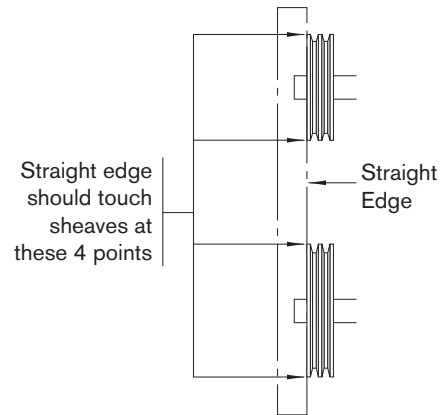
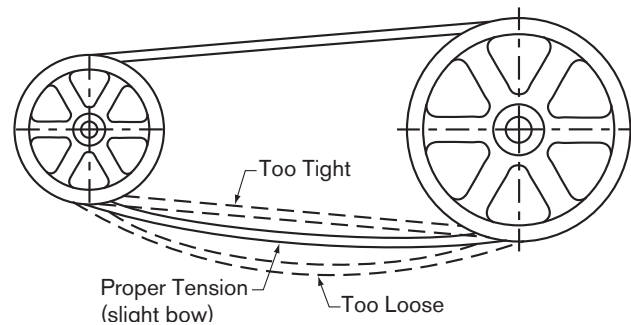

Figure 2
Figure 3
- 20 ☐ ☐ ☐ Check belt tension. Alignment and tension should be as shown in **Figure 2** and **Figure 3**. Adjust if necessary. **Unlock power to the motor.**
14. After 20 minutes, **carefully** look down the belt tube to observe if the belts are running as indicated in **Figure 3**.
16a. If the belts were running as per **Figure 3**, re-install the belt guard or weather cover if supplied, then go to Step 17
16b. If the belts were **not** running as indicated in **Figure 3**, repeat Steps 2, 3, 10 through 14 and 16a.
21. **Carefully** look down the belt tube to observe if the belts are still running as indicated in **Figure 3**.
23a. If the belts **are** running as per **Figure 3**, re-install the belt guard or weather cover if present, then proceed to Step 24.
23b. If the belts **are not** running as indicated in **Figure 3**, repeat Steps 2, 3, 10 through 14 and 16a.
28. **Carefully** look down the belt tube to observe if the belts are still running as indicated in **Figure 3**.
30a. If the belts **are** running as per **Figure 3**, re-install the belt guard or weather cover present, then proceed to Step 31.
30b. If the belts **are not** running as indicated in **Figure 3**, repeat Steps 2, 3, 10 through 14 and 16a.
35. **Carefully** look down the belt tube to observe if the belts are still running as indicated in **Figure 3**.
- 37a. If the belts **are** running as per **Figure 3**, re-install the belt guard or weather cover if present, then proceed to Step 38.
- 37b. If the belts **are not** running as indicated in **Figure 3**, repeat Steps 2, 3, 10 through 14 and 16a on page 9
33. Since all the components were re-installed at the same original dimensions, they should still be aligned and parallel with each other as shown in Figure 1 and Figure 2. Check the belts to make sure they are aligned and the belts are perpendicular to the grooves in the sheaves.
39. After 20 minutes, **carefully** look down the belt tube to observe if the belts are running as indicated in **Figure 3**.
- 41a. If the belts **are** running as per Figure 3, re-install the belt guard or weather cover if present, then proceed to Step 42.
- 41b. If the belts **are not** running as indicated in Figure 3, repeat Step 2 and Steps 31 through 33.
46. **Carefully** look down the belt tube to observe if the belts are still running as indicated in **Figure 3**. Turn off and lock out power to the motor.
- 47a. If the belts **are** running as per **Figure 3**, re-install the belt guard or weather cover if present, then proceed to Step 48.
- 47b. If the belts **are not** running as indicated in **Figure 3**, repeat Step 2 on and Steps 31 through 33.
52. **Carefully** look down the belt tube to observe if the belts are still running as indicated in **Figure 3**.
- 54a. If the belts **are** running as per **Figure 3**, re-install the belt guard or weather cover if present, then proceed to Step 55.
- 54b. If the belts **Are not** running as indicated in **Figure 3**, repeat Step 2 and Steps 31 through 33.
59. **Carefully** look down the belt tube to observe if the belts are still running as indicated in **Figure 3**.
- 61 a. If the belts **are** running as per **Figure 3**, re-install the belt guard or weather cover if present, then proceed to Step 62.
- 61 b. If the belts **are not** running as indicated in **Figure 3**, repeat Step 2 and Steps 31 through 33.